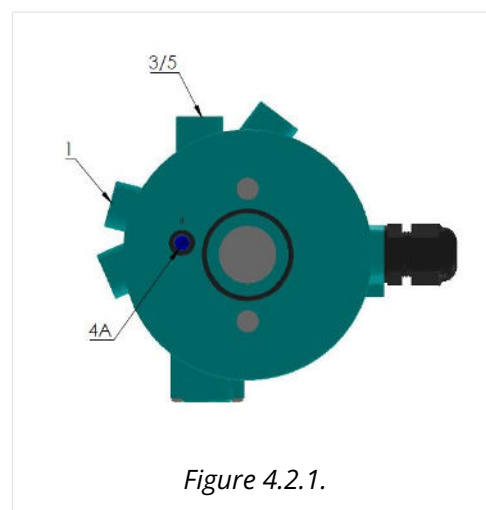

Figure 4.2.1.
The pneumatic connections for **turning actuators (spring return)** – normally closed (NC) or normally open (NO) as shown in *Figure 4.2.1*.